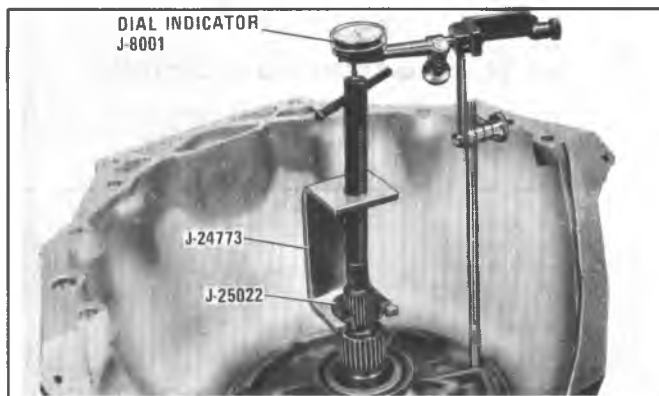

Figure 7A6-33 Checking Overdrive Unit End Play
d. Install J-25022 on J-24773-5 tool and secure on end of turbine shaft (Figure 7A6-33).